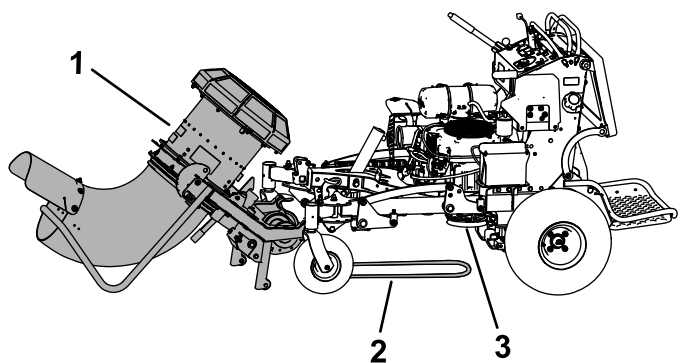

Figure 11
7. Move the blower in front of the machine and lay the belt underneath the machine so that it is lined up with the clutch (Figure 11).